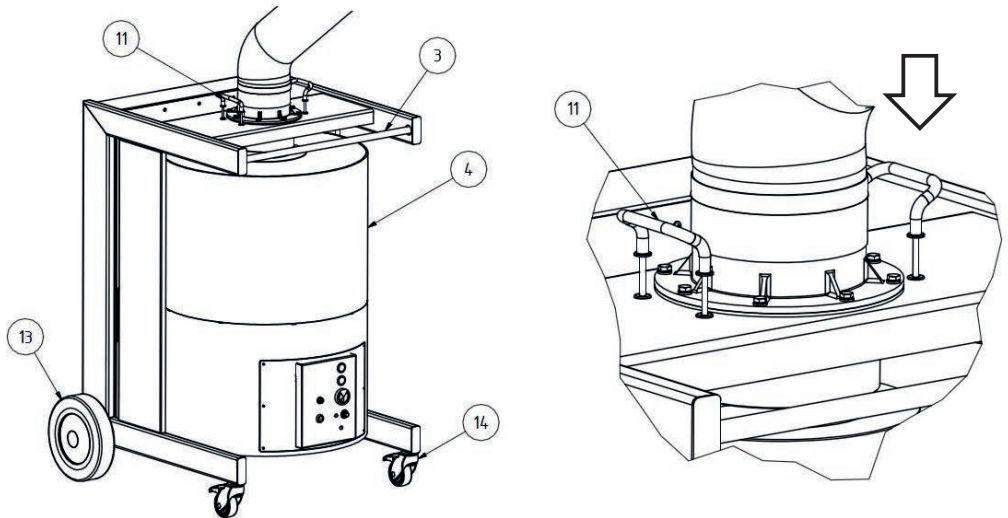

Figure 2, Unpacking and assembling the wheels
- Now, by means of the two handles, press the filter change system downwards as far as the end stop (Fig. 2, No. 11).